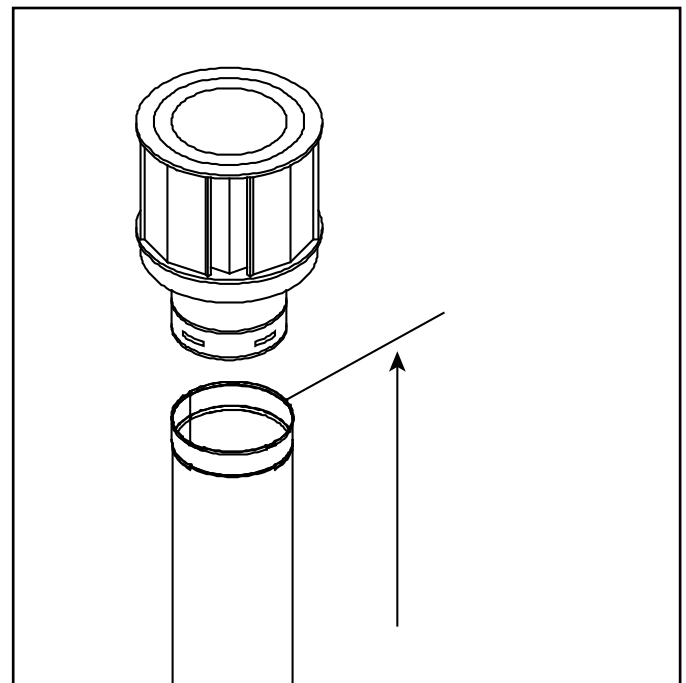

Figure 4.11 Measure to Top of Last Section of Pipe
- Vertical terminations are measured to top of last section of pipe. See Figure 4.11.